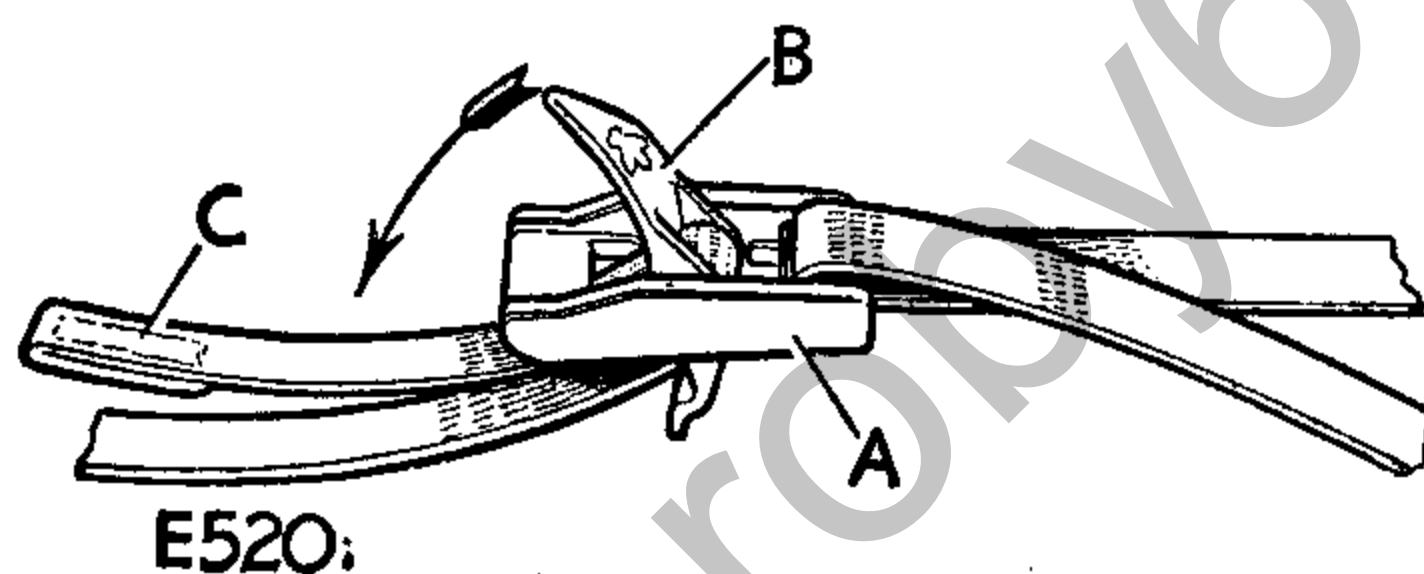

Fig. 18. Fastening the seat strap buckle, second stage.
- (c) Pass the top of the tongue 'B' up through the buckle 'A' and turn down the tongue in the direction of the arrow. See Fig. 18.